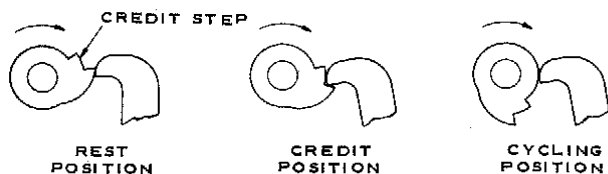

Figure 21. Cam Positions.
1. Turn the motor manually until the latch bar lever drops to the credit step of the cam and then reverse the direction until the point of the lever is against the vertical part of the cam as shown in *Figure 21* above.
The selection switches have three conditions of operation corresponding to the 3-positions of the cam shown in *Figure 21* and are operated by the cam through mechanical linkage. In the stand-by positions the switch latch bars are held against the pressure of the latch bar spring so the selector buttons are free to move in and out and will not stay in the pressed-in position. In the credit position the bars are released to a position which permits a selection switch, when pressed, to latch in the operated position but, if another switch is operated, the first will be released. In the cycling position the latch bars are fully released so the selection switches are locked in either the normal or pressed positions.
1. Place the cam in the Credit Position (*Figure 21*).